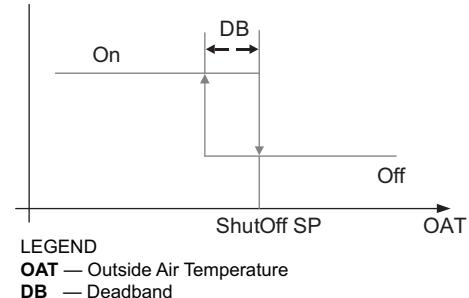

Fig. 59 — Hysteresis Settings
Hysteresis setting (DB) defaults to 2°F (−17°C). See Fig. 59.